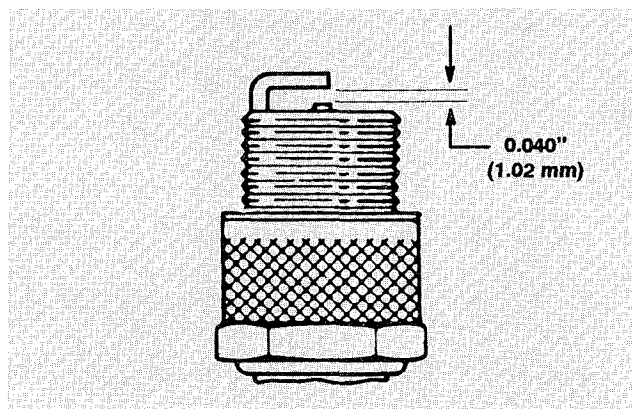

Figure 18
4. Set air gap between center and side of electrodes at 0.040 of an inch (1.02 mm) (Fig. 18). Install correctly gapped spark plug w/gasket seal, and tighten plug to 30 ft-lb (40 Nm). If torque wrench is not used, tighten plug firmly.